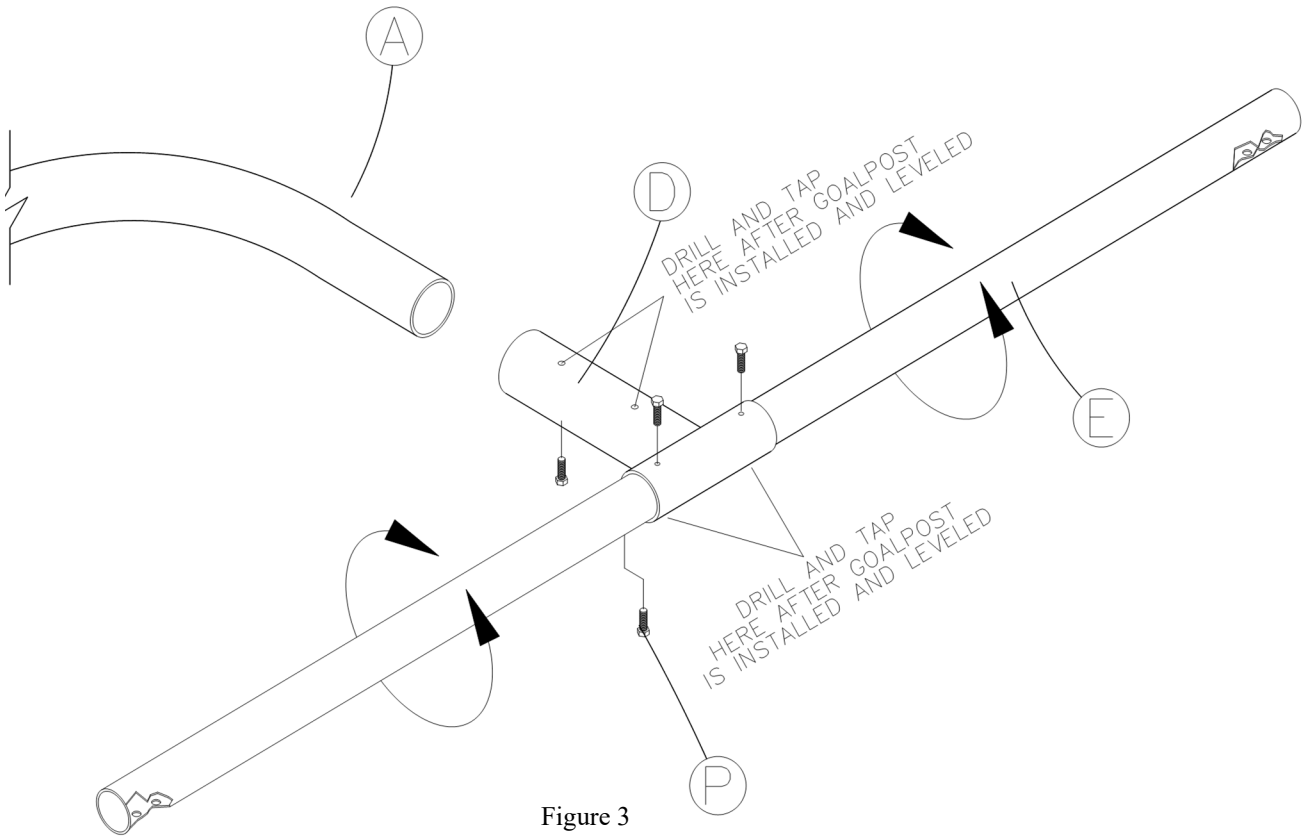

Figure 3
- Slide “T” Adapter (D) onto Crossbar (E), and center on cross bar. Use caution not to damage the powder coated finish. Orient the “T” adapter in the center of the crossbar with the opening for the gooseneck pole 90° from the 2 drilled holes on each end of the crossbar and with both the threaded crossbar holes on the “T” adapter facing up. Once you have the “T” adapter and crossbar positioned in the approximate location tighten the crossbar using 3/8” - 16 x 1” Hex Bolts (P). See Figure 3.
- It is recommended to use 4 people with sufficient height step ladders to hoist “T” adapter and crossbar assembly onto the end of the gooseneck pole. Make sure the “T” Adapter (D) is on the pole as far as it can go. Level the cross bar. Using the 3/8”X 1” Hex Bolts (P) tighten “T” adapter/crossbar assembly to the gooseneck pole. Make sure that the crossbar is level before hardware is tightened. See Figure 3.
15. Using a sharp 7/16" drill bit, drill through the four pre-drilled pilot holes in the "*T*" Adapter (D) and into the crossbar and gooseneck pole. Use a 1/2"-13 tap to thread the holes. These holes are indicated by removable labels. See Figures 3, & 5.
16. Use the *1/2" x 1" Hex Bolts* (H) to attach the crossbar and the gooseneck pole to the "*T*" adapter assembly. See Figure 3.
17. Remove the previously installed $3/8$ "-16 x 1" Hex Bolts (P), and drill out the holes using the $7/16$ " drill bit going through the "T" adapter and one wall in the gooseneck and the crossbar. Using a $1/2$ "-13 tap thread the holes.
18. Using the $1/2$ " x 1" Hex Bolts (H) secure the crossbar and gooseneck pole to the "T" adapter. See Figures 3
19. Using the provided hole in the Washer plate (K) as a guide, drill a $3/8$ " hole through the Crossbar (E)